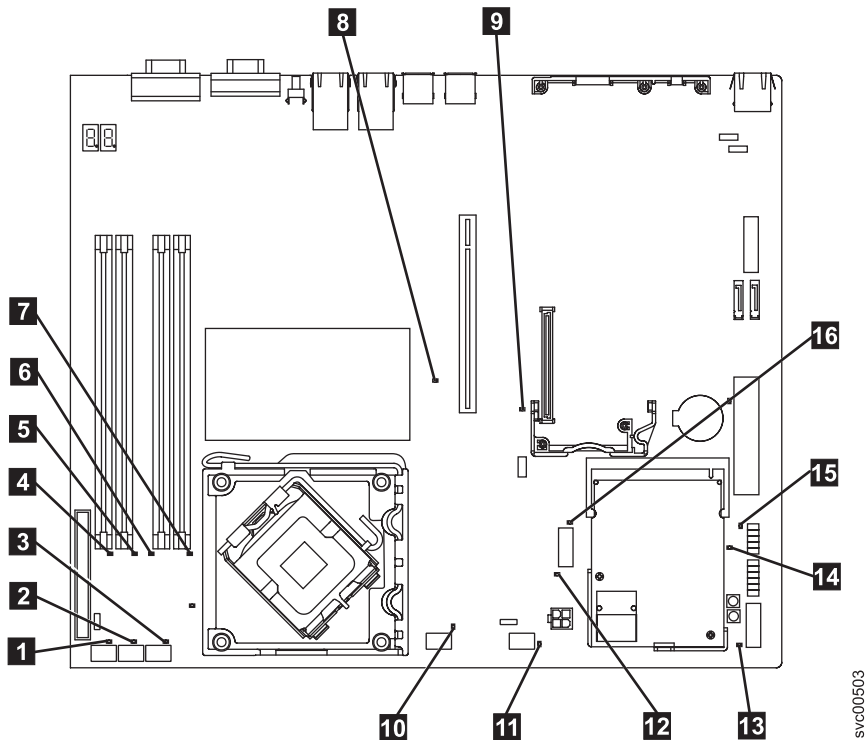

Figure 99. SAN Volume Controller 2145-8A4 system board LEDs
**YES** Identify any diagnostic LEDs on the system board that are on. Figure 99 on page 414 shows the location of the system board LEDs. The fan LEDs are located adjacent to each fan. You can ignore the three LEDs that do not indicate an error: **13**, **14**, and **15**.